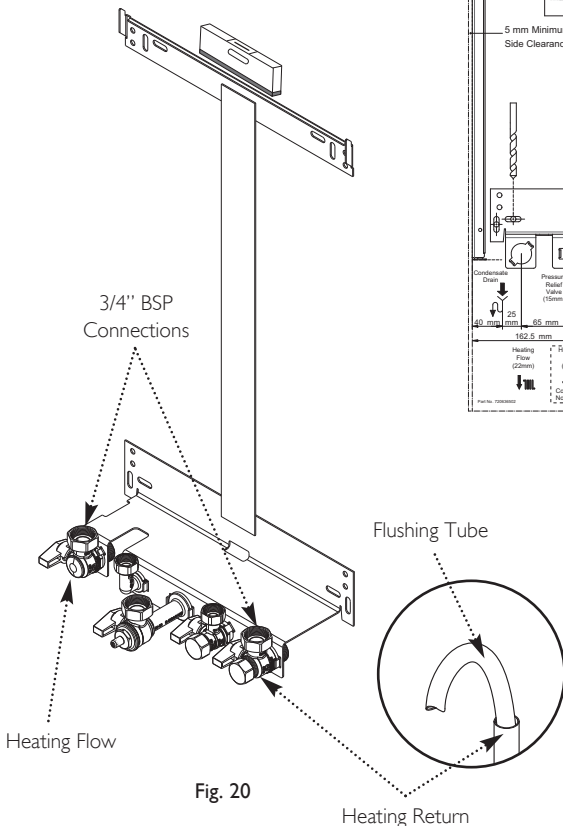

Fig. 20
1. Connect a tube to the heating flow or return pipe (Fig. 20).